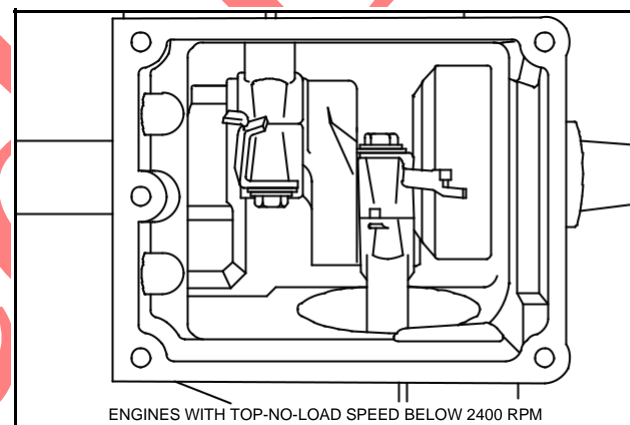
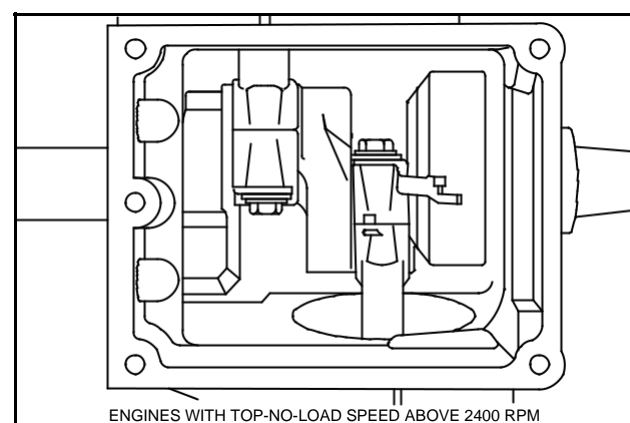

Fig. 18 – Dipper Location
Fig. 19 – Dipper Location
**Engines with a Top-No-Load speed above 2400 RPM:** Install only one oil dipper on #1 connecting rod, Fig. 18. Use **ONLY** dipper part #222480. Engine models 421000 and 422400 manufactured before code date 92072000 were not originally equipped with this dipper. It is recommended that the oil dipper be replaced with dipper part # 222480 in all 421400 and 422400 engines at the time of major servicing or overhaul. When installing dipper part #222480 in these engines, the oil trough must be removed (if so equipped).
**Engines with a Top-No-Load speed below 2400 RPM:** Engines with a Top No Load speed below 2400 RPM require 2 oil dippers. Install **ONLY** oil dipper Part #222480 on # 1 connecting rod. Install **ONLY** dipper Part #223053 on #2 connecting rod, Fig. 18.
Oil dipper is installed as shown in Fig. 18 or Fig. 19.